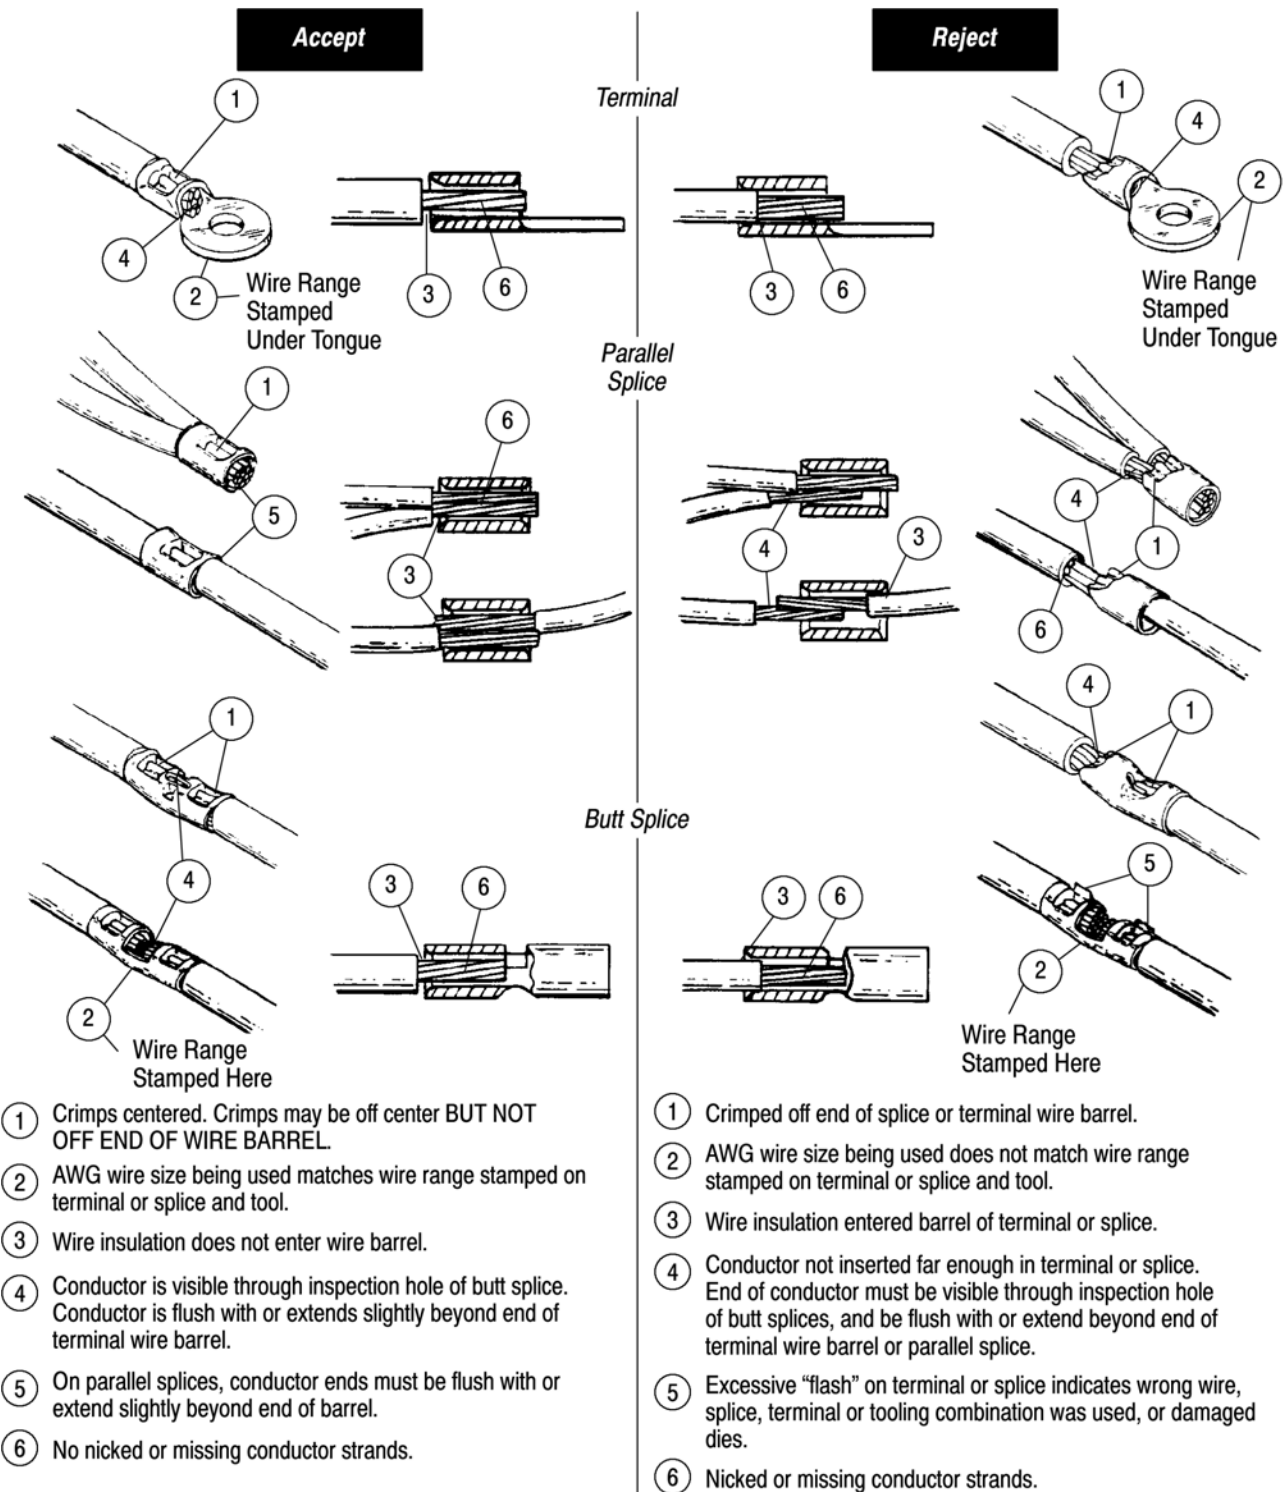

Figure 6
6. Refer to Section 5 and Figure 6 for crimp inspection.
Inspect crimped terminals and splices by checking the features described in Figure 6. Use only the terminals or splices that meet the conditions shown in the "ACCEPT" column. "REJECT" terminations can be avoided through careful use of instructions in Section 4, and by performing regular head maintenance, as described in Section 6.